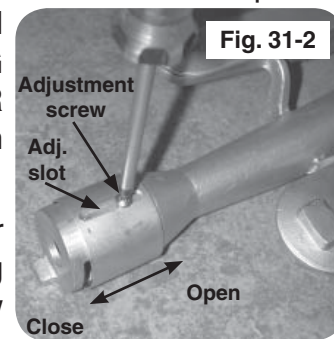

Fig. 31-2
2. Adjust the air shutter opening by loosening the adjustment screw with a screwdriver, then sliding the air shutter backward or forward to open or close the air shutter opening (see Fig. 31-2).